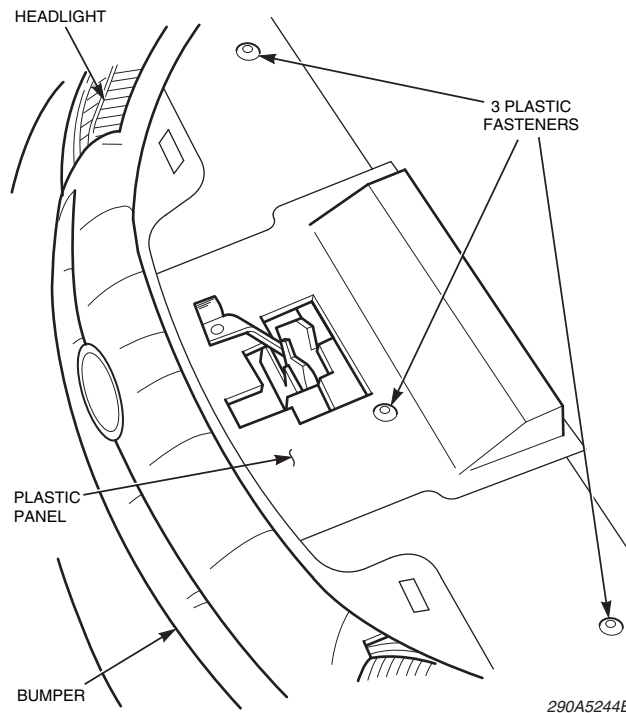

Figure 1: Location of the plastic panel
1. Raise the vehicle hood and locate the plastic panel between the radiator crossbar and the grille fascia (Figure 1).
2. Secure the plastic panel over the hood latch with the plastic quarter-turn fasteners (*Figure 1* on page 3).